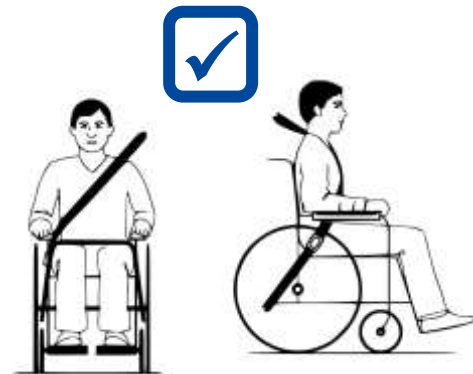

Figure 7 *Proper belt-restraint fit*
7. Make sure that the shoulder-belt restraints fit over the shoulders, see figure 7.